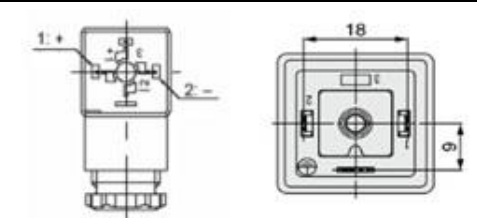

Figure 1. DIN Type A
- Make connections to the power supply according to figures 1 & 2.